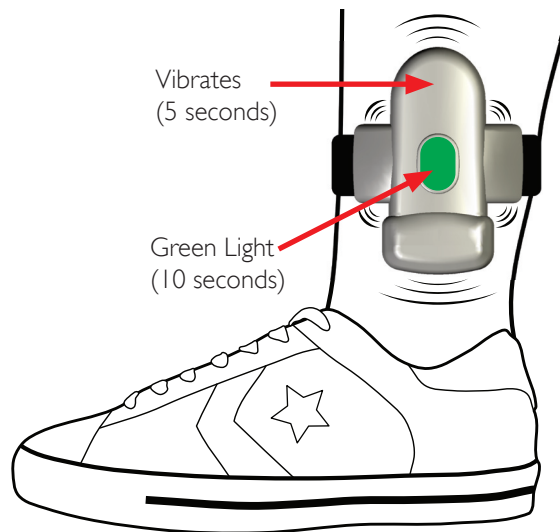

Figure 7—Remove the tool from the SOLO
15. Close the strap-fitting-lever and remove the tool from the SOLO. (**Figure 7**)